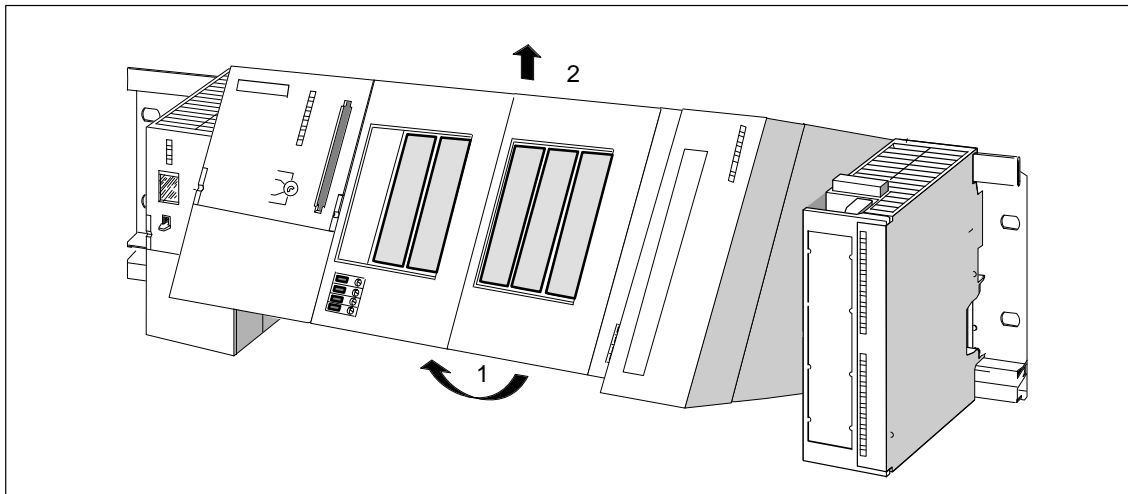

Figure 9-5 Swinging a Module Assembly Comprising CPU and Expansions upward and Lifting it off
9. Swing the module assembly upward and lift it off (Figure 9-5).